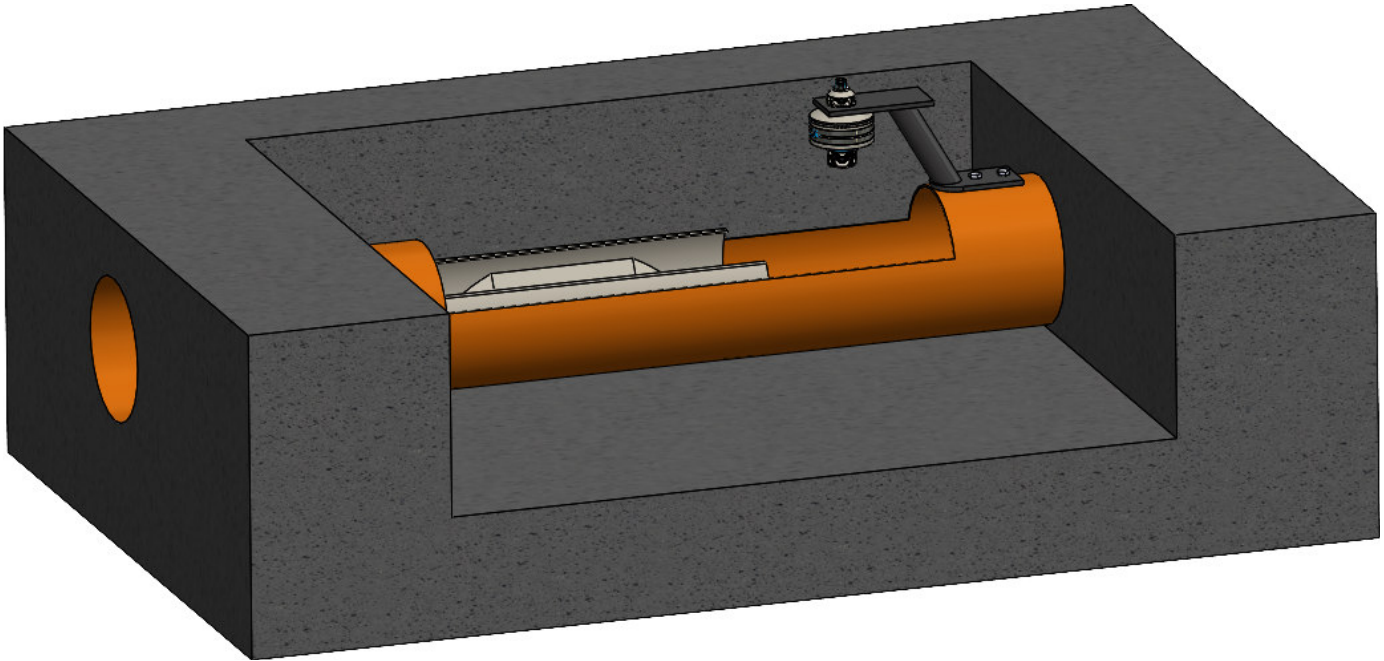

Fig. 1
- 1) by opening the pipe upper part and positioning the Palmer-Bowlus channel directly into the created aperture. (see eg. in figure 1)